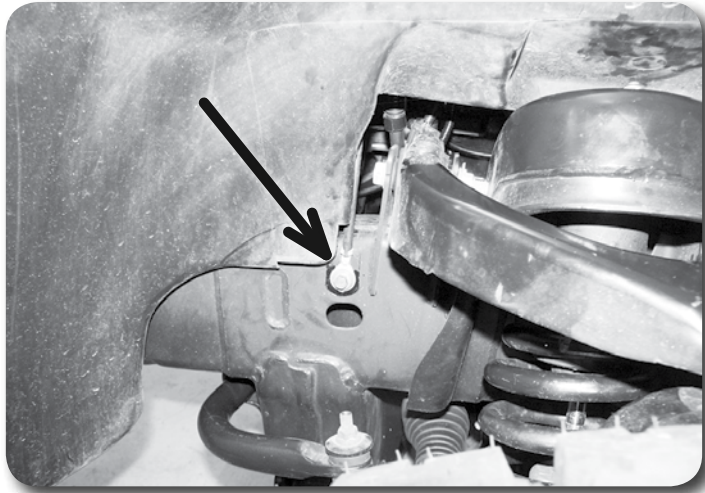

Figure 7
17. Disconnect the ground cable from the driver's side frame rail, just in front of the upper control arm **Figure 7**. Save bolt.